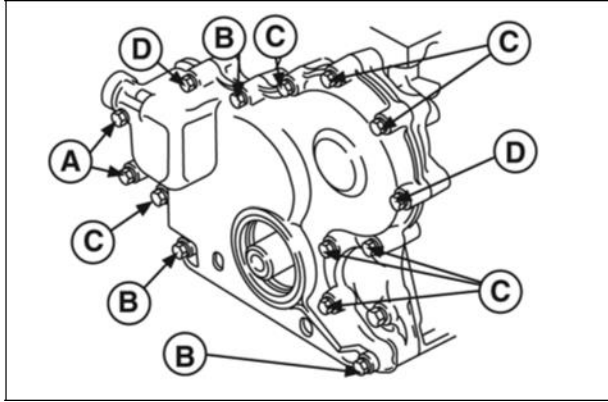

Figure 18
9. Torque screws to values listed in Section 14 - Engine Specifications. Camshaft gear (A, Figure 18), idler gear (B), and oil pump gear (C).